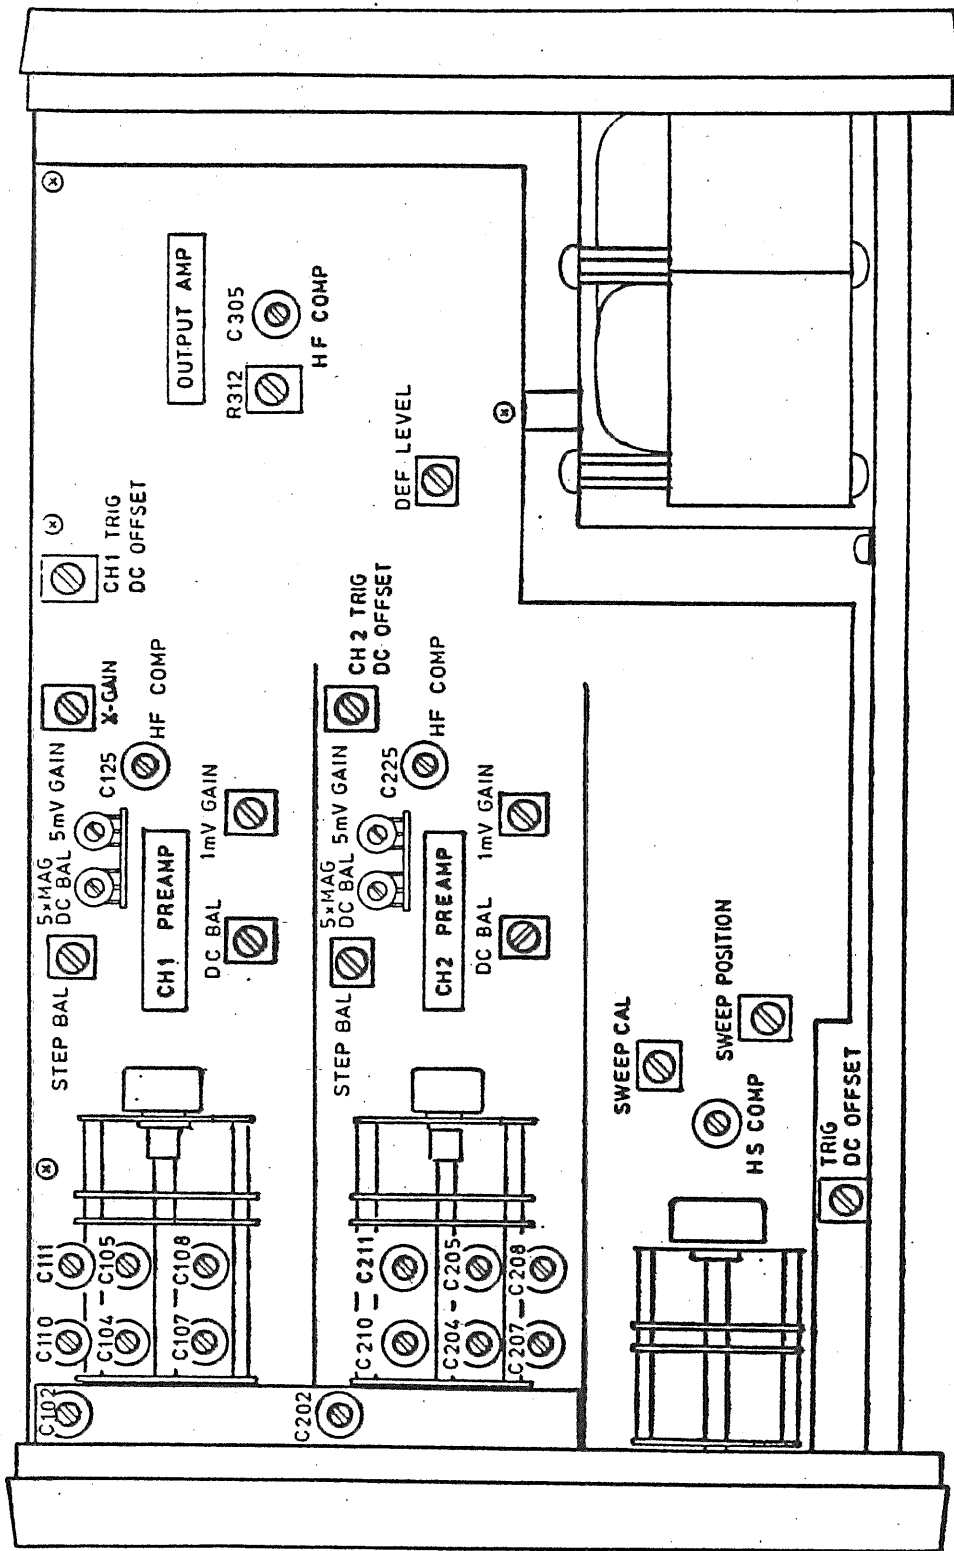

Fig. 24
6.3 Adjustment of Vertical Axes (Refer to Fig. 24.)
- (1) Set the GND button in position, and display a horizontal trace line in the CRT screen.
- (2) Adjust the STEP BAL control (Refer to Fig. 24.) so that the shift of the horizontal trace line is made minimum, when the VOLTS/DIV switch is set in the 5mV range from the 20mV range or in the 20mV range from the 5mV range.
- (1) Set POSITION knob in normal position and adjust the horizontal trace line on the center of the graticule line and then pull-out the knob as it is.
- (2) Adjustment of the 5X MAG DC BAL (See Fig. 24.): Adjust the horizontal trace line on the center of the graticule line.
- (1) Set VERT MODE in CH1 (or CH2), and display a horizontal trace line in the CRT screen.
- (2) Adjust the DEF LEVEL control (Refer to Fig. 24.) so that the potential of the pin Y of CRT is in 80V.
- (1) Set the 5mV/DIV of the VOLTS/DIV switch and pull-out the POSITION knob. Add input signal of 8mVp-p from output of the oscillator into the vertical input terminal.
- (2) Set the vertical variable knob to the CAL'D position and adjust the GAIN control at 1mV (See Fig. 24.) so that the waveform which has an amplitude corresponding to the value of 8DIV displayed on the CRT.
- (3) Set the POSITION knob in normal position and Add input signal of 40 mVp-p from output of the oscillator into the vertical input terminal and adjust the GAIN control at 5mV (See Fig. 24.) so that the waveform which has an amplitude corresponding to the value of 8DIV displayed on the CRT.
- (1) Set the VOLTS/DIV switch in the 5mV range, and adjust the output voltage of the square wave generator so that the amplitude displayed on the CRT screen is 4 DIVs.
- (2) Set the TIME/DIV switch in 0.5 μ s range, and adjust the HF COMP. control (Refer to Fig. 24 .) so that the top of the square wave is flat. Frequency characteristics of vertical amplifier is adjusted within 0 \sim 3dB at DC \sim 10MHz.
- (1) Apply the 1ms interval time marker signal or the 1kHz signal to the vertical input terminal, and set the TIME/DIV switch in the 1mS range. Adjust the amplitude of a signal or the VOLTS/DIV switch so that the waveform of an appropriate amplitude is displayed on the CRT screen.
- (2) Adjust the SWEEP CAL control (Refer to Fig. 24.) so that the repetition period of waveform corresponds with vertical graticule lines.
- (3) Apply the 10 μ s interval time marker signal or the 100kHz signal to the vertical input terminal, and set the TIME/DIV switch in the 10 μ S range. Adjust the HS COMP. control (Refer to Fig. 24.) so that repetition period of waveform corresponds with vertical graticule lines. By this adjustment, sweep times of all ranges of the TIME/DIV selector are calibrated, and the function of the 5x MAG is also calibrated by the same adjustment without any other adjustment.
6.5 Adjustment of Horizontal Axis (X axis) (Refer to Fig. 24.)